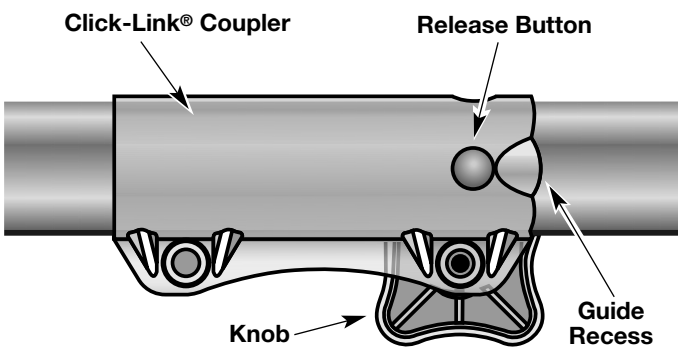

Fig. 7
1. Turn the knob counterclockwise to loosen (Fig. 7).
2. Press and hold the release button (Fig. 7).